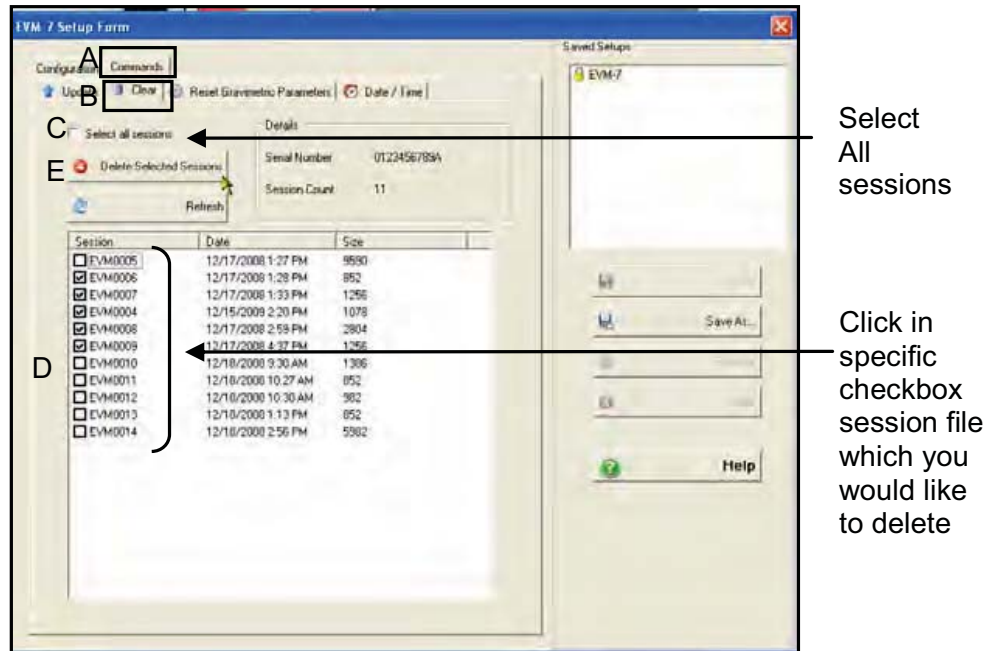

Figure 6-11: Clearing or deleting files
1. Ensure the EVM is connected to your pc. (See Figure 6-11.)